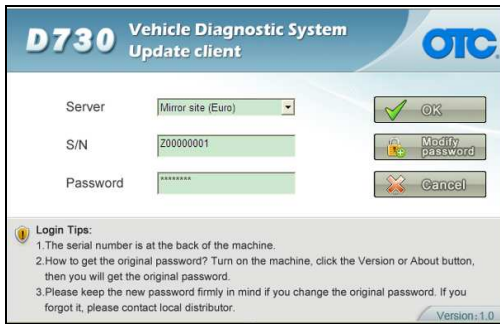

Fig 2-1 Login screen
Step1: Take out the SD card from main unit, plug it into the USB SD card reader and connect to PC. Step 2: Double click to run the **D730 update client** program on your PC and go to update screen as shown in Fig 2-1.